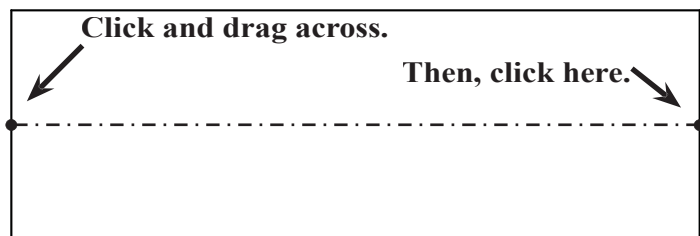

Fig. 3
Step 5. Move the cursor along the line of the left side of the rectangle, when the line changes color you are at the midpoint, click. Stretch the line across to the midpoint of the right side of the rectangle. When the line changes color, click, Fig. 3.